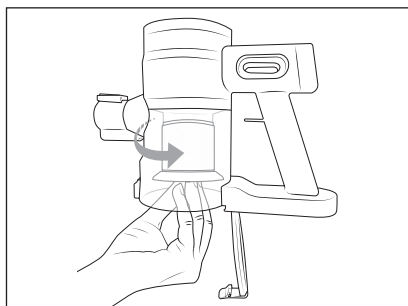

Fig. 15
- 6) Place the stainless steel filter **6** and EPA filter **5** back in the dust container **2** and turn the EPA filter **5** anticlockwise until it is firmly seated in the dust container **2** (see Fig. 15).